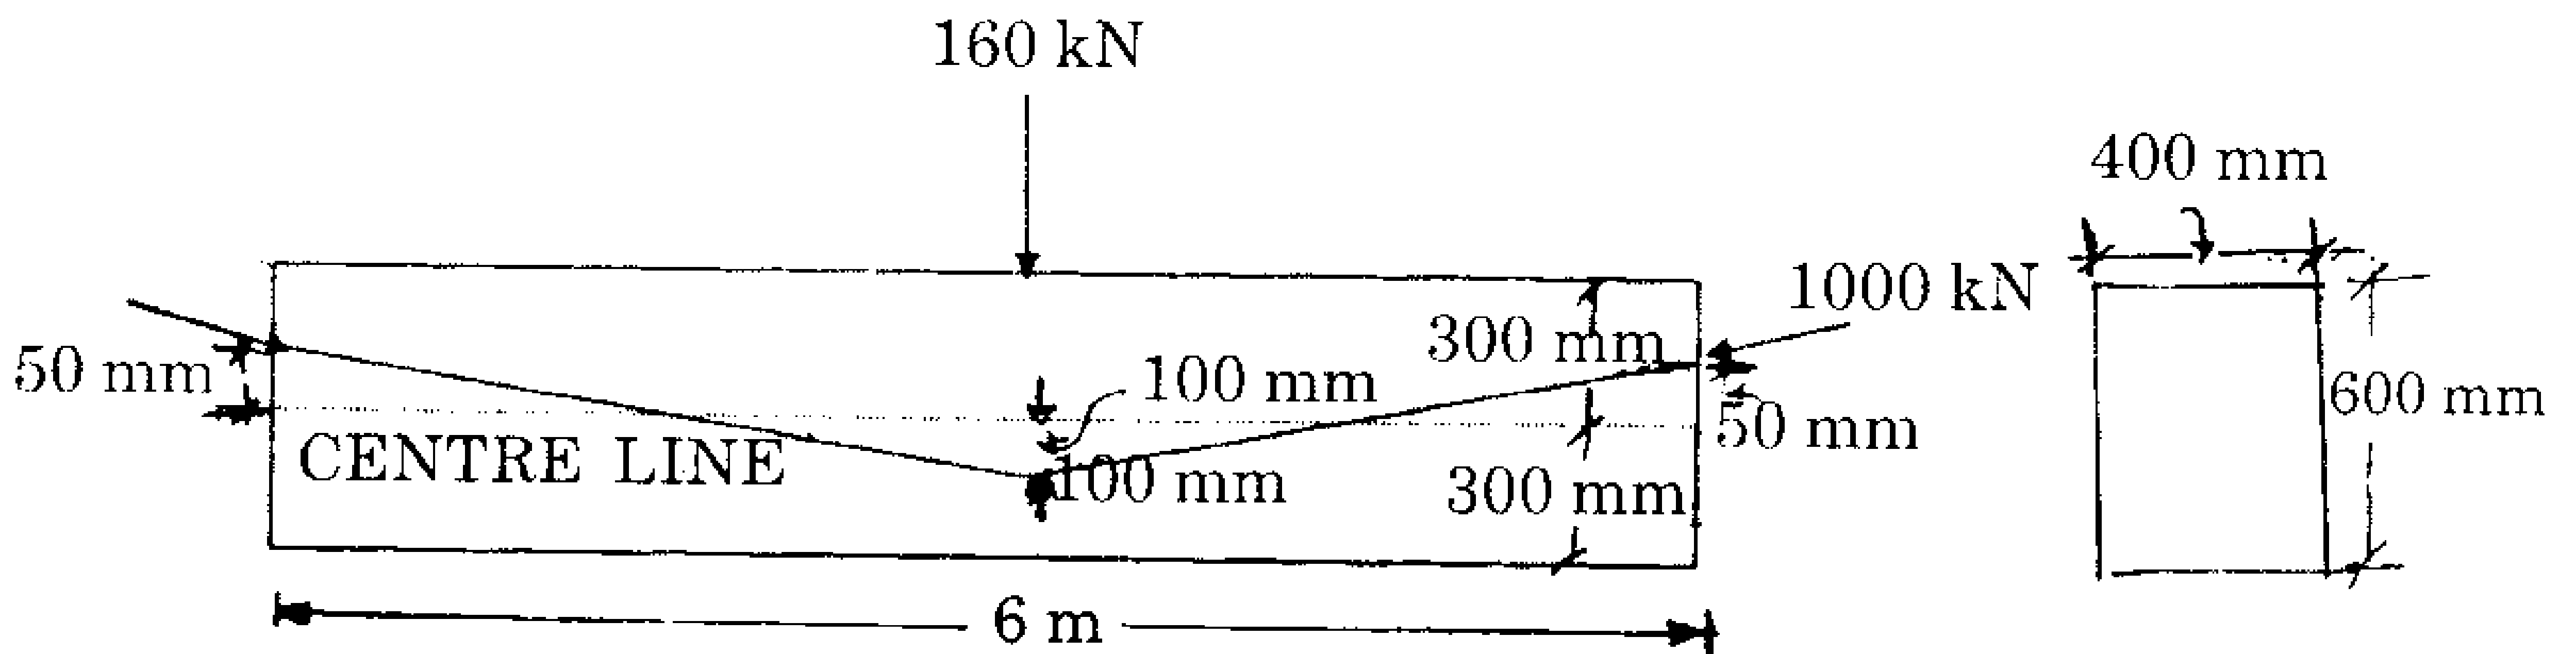

Fig. 5
3. (a) The prestressed concrete beam as shown in Fig. 5, is provided with bent tendon as shown in Fig. below. The beam carries a